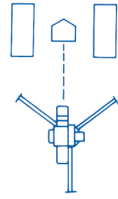

Figure 7
The rotating plate has 2 sets of bolt holes (see Figure 7.) Use the bolts provided to attach the rubber pad bracket to the rotating plate described below (½-inch wrench).
5. Position the rubber pad bracket until the bolt holes line up with the upper bolt holes in the rotating plate for softball use, or the lower bolt holes for baseball, (see Figure 7.)